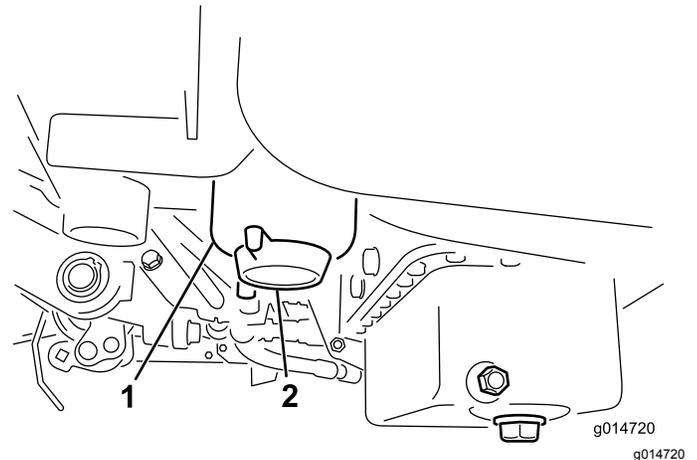

Figure 32
3. Open the drain plug on the fuel filter approximately one turn and drain any accumulated water (Figure 32).